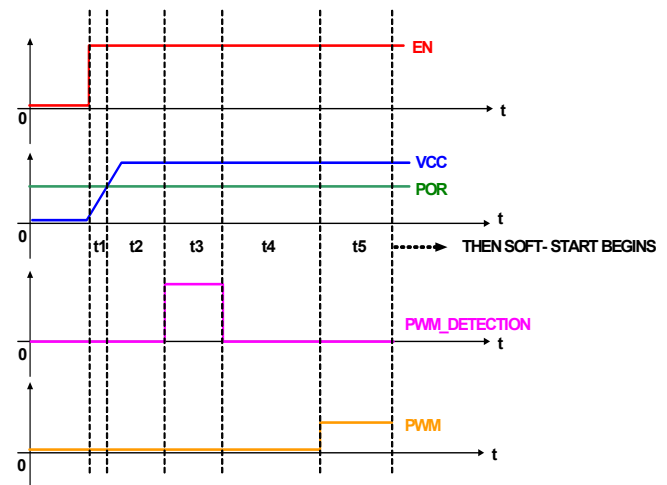

FIGURE 14. CIRCUIT INITIALIZATION BEFORE SOFT-START
Figure 14 shows the ISL78220 internal circuit functions before the soft-start begins.
As shown on Figure 14, there are 5x intervals before the soft-start is initialized, they are specified as  $t_1$ ,  $t_2$ ,  $t_3$ ,  $t_4$  and  $t_5$ , respectively. The descriptions for each time interval are as follows:
**Time  $t_4$ ,  $t_5$ :** Same as the  $t_4$ ,  $t_5$  in Figure 14, soft-start has not started yet. See “Operation Initialization Before Soft-Start” on page 13 for a detailed description.
**Time  $t_4$ ,  $t_5$ :** Same as the  $t_4$ ,  $t_5$  in Figure 14, soft-start has not started yet, see “Operation Initialization Before Soft-Start” on page 13 for detailed description.